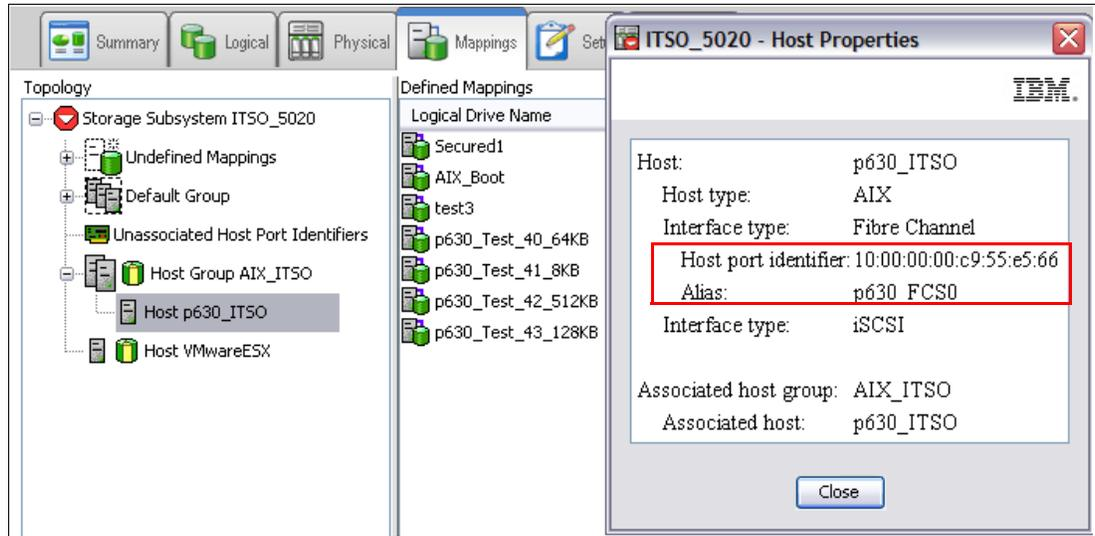
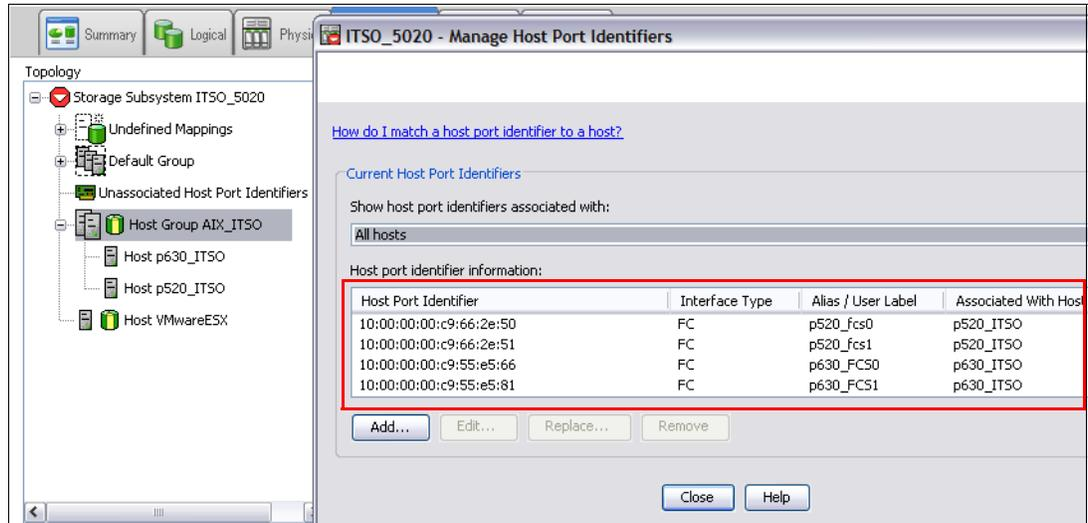
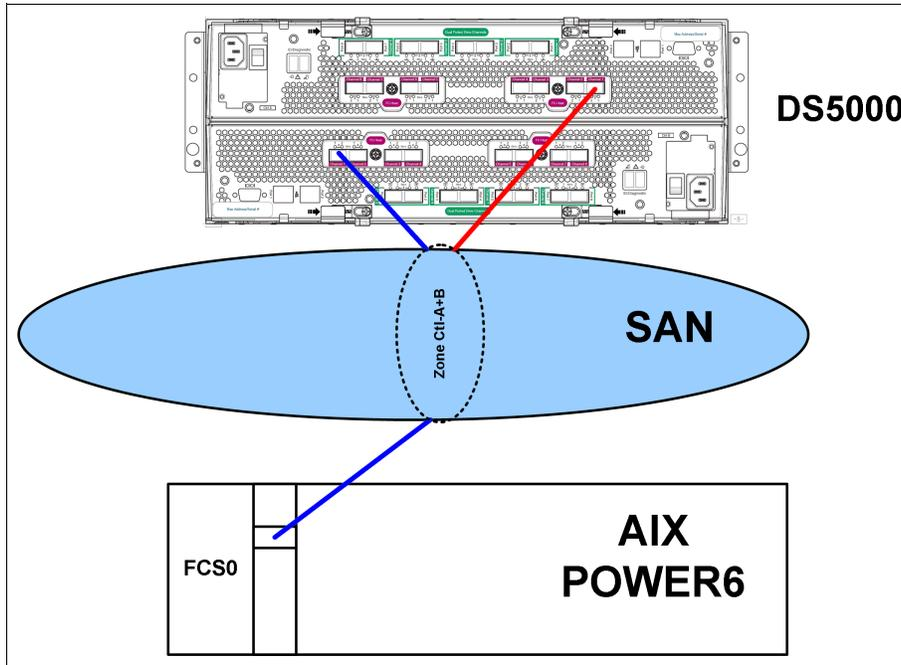

Figure 12-5 Single HBA on AIX host - single point of failure
Figure 12-7 Two storage partitions - Two HBAs for each storage partition
Figure 12-8 AIX system with one HBA
This configuration has only one HBA in one AIX server (Figure 12-5). This configuration is *supported but not considered secure*, because SAN connections using single HBA become a single point of failure for the server when accessing external storage. However, even the single HBA requires zoning to the both controllers A and B (see Figure 12-8 on page 554).
Figure 12-7 and Figure 12-8 represent this configuration, which is a common configuration used in PowerHA with two cluster nodes. More AIX servers can be added to the Storage Group if required in the PowerHA cluster. This configuration is also typical in a PowerVM environment where dual VIO servers are used.
In this case, we have one HBA on the AIX server included in a single zone for access to controller A and controller B respectively. In Storage Manager, you can define one storage partition with one host HBA. See Figure 12-5 on page 552.
This configuration is *supported, but not considered suitable*. We prefer SAN administrators to create dedicated zone for each Fibre Channel HBA, as it complies with SAN best practices and standards. There is only one initiator in each zone in Figure 12-8, hence it simplifies the fabric and SAN operation and management.
- ▶ A configuration with single HBA and only one DS5000 controller is unsupported because the AIX server requires connectivity to both DS5000 controllers to maintain logical drive connectivity in the event of controller failover. See Figure 12-8 on page 554 for the correct configuration.